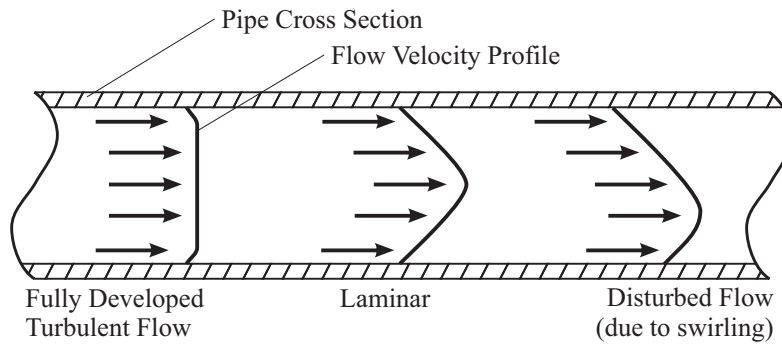

Fig. 3
- There are two basic types of flow profiles; turbulent and laminar (see figure 3). **Turbulent** flow exists when the speed of the fluid flowing in the pipe is nearly constant across the entire width of the pipe. This is typical of low viscosity fluids; like water, flowing at high velocity. **Laminar** flow exists when the speed of the fluid flowing in the center of the pipe is greater than the speed of the fluid at the outer edge near the pipe wall. This is typical of high viscosity fluids flowing at low velocity. Because the F-1000 is measuring the fluid near the pipe wall only (especially in larger pipe sizes), a constant flow velocity across the flow stream is required.